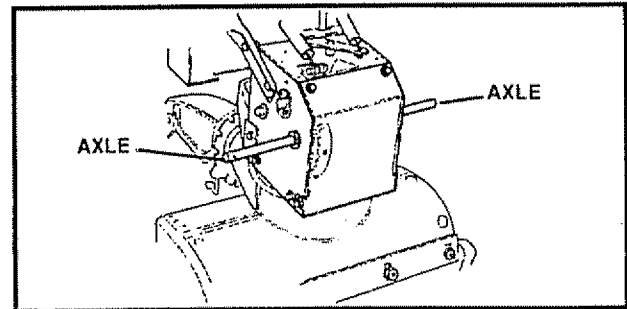

FIG. 15
- Remove both wheels, grease (any automotive type grease) both axles (See Fig. 15) and replace wheels. Do this at least once a year and/or prior to storage.